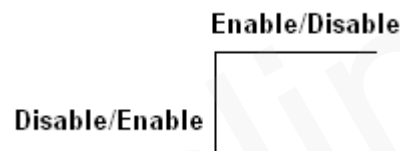
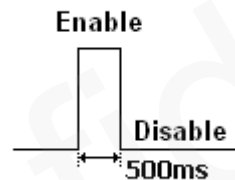
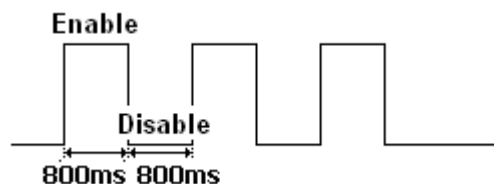
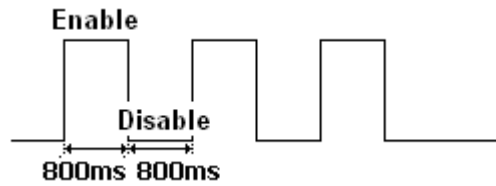

Figure 2: Wave Shape 1
Figure 3: Wave Shape 2
Figure 4: Wave Shape 3
Figure 5: Wave Shape 4
✧ <Output1 -4 Status>: Used only for the wave shape 1 as shown in **Figure 2** to set the final status of the output port.
- ✧ <Duration>: Please refer to **Figure 2**, **Figure 3** and **Figure 4** and **Figure 5**. Unit is 100ms.
- ✧ <Toggle Times>: Please refer to **Figure 2**, **Figure 3** and **Figure 4** and **Figure 5**.